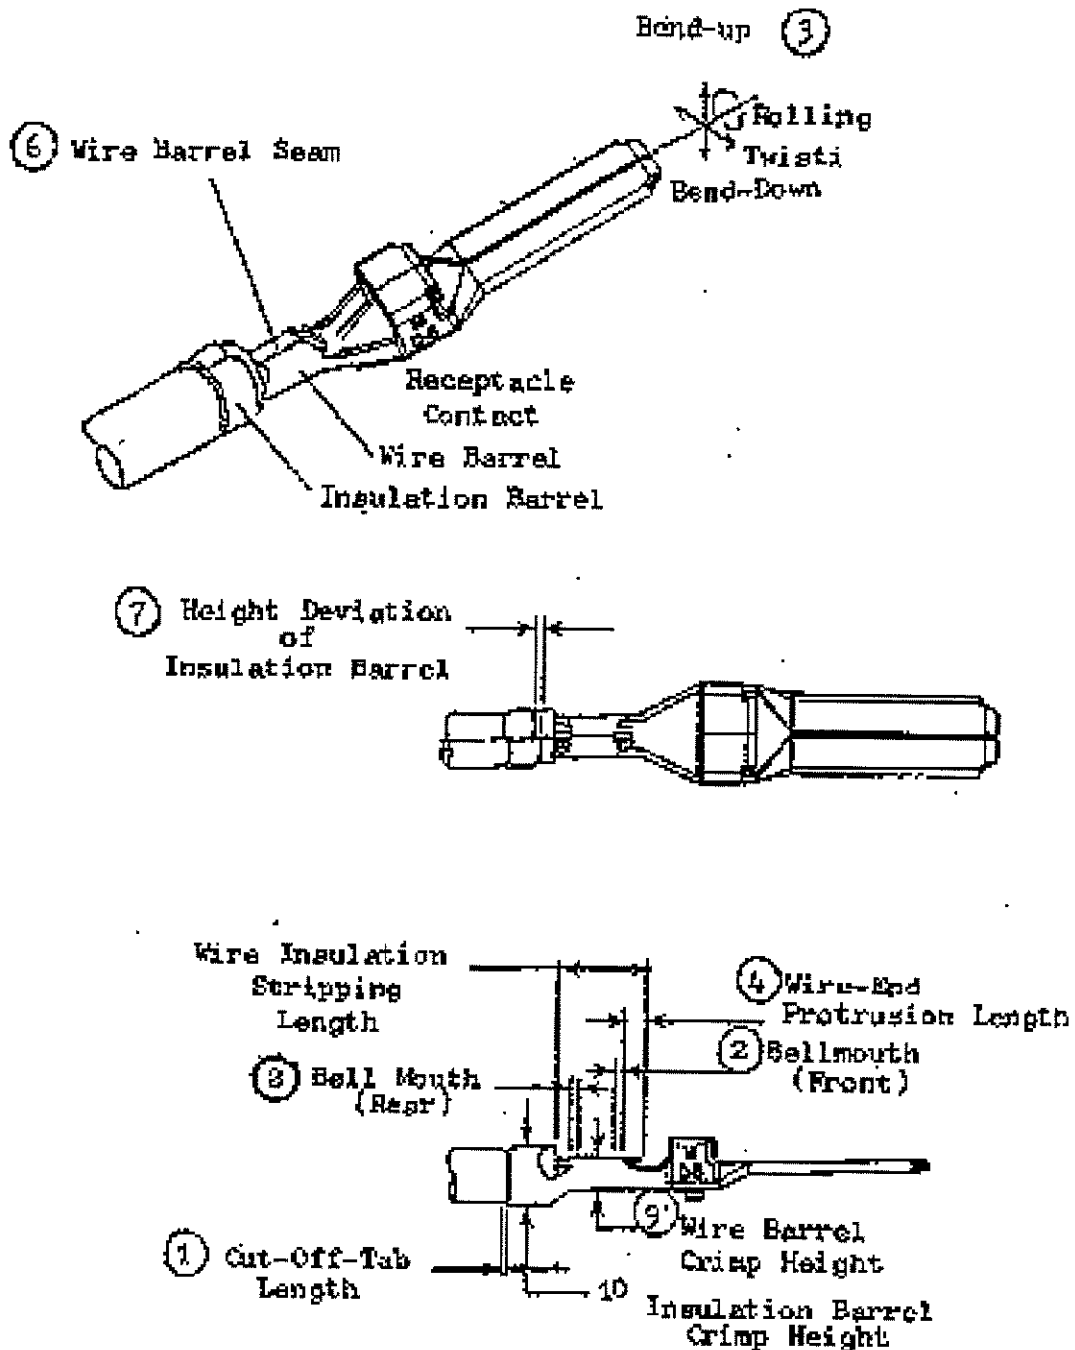

Fig. 1
1. Tolerance of wire barrel crimp height to be within ± 0.05 mm. Fig 1 (9).